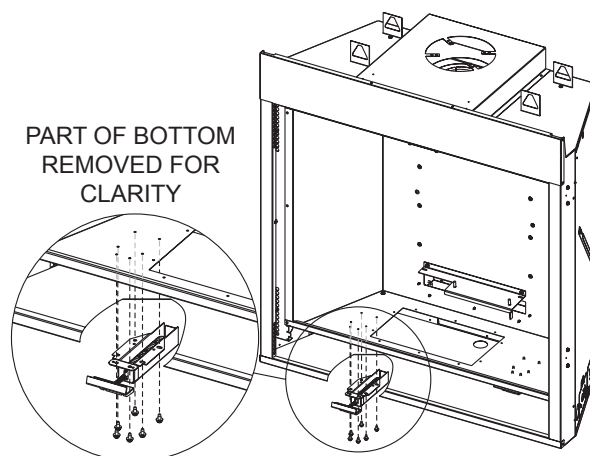

Figure 12
9. Remove the screws securing the left latch assembly to the underside of the firebox. Retain screws and latch assembly for reassembly. **See Figure 12.**
12. Reinstall the latch assembly removed in step 9. **See Figure 12.**